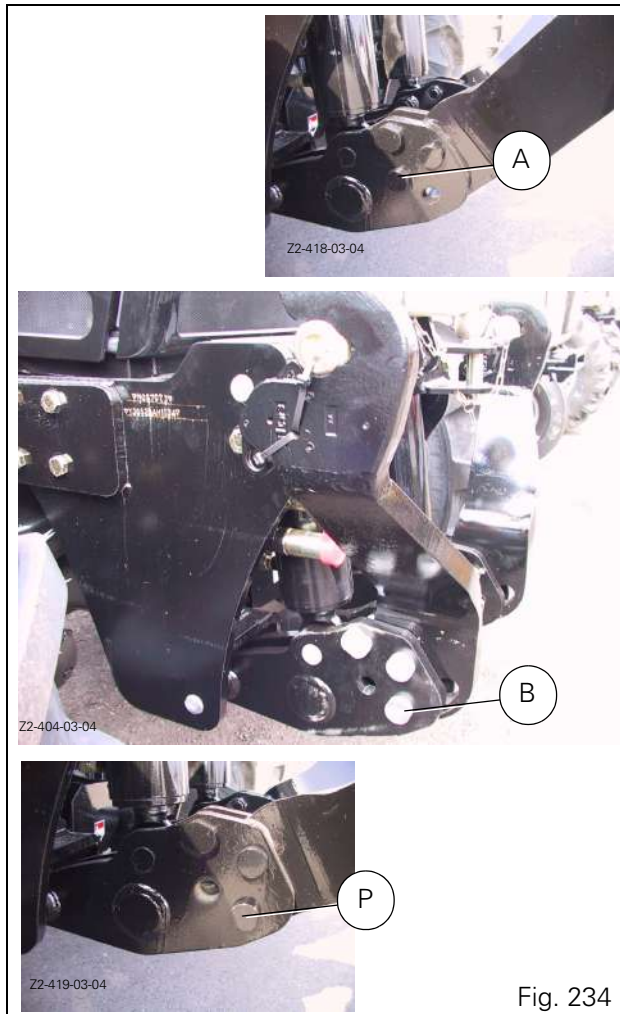

Fig. 234
- Three positions can be used depending on requirements: Fixed, floating and transport position (Fig. 234)